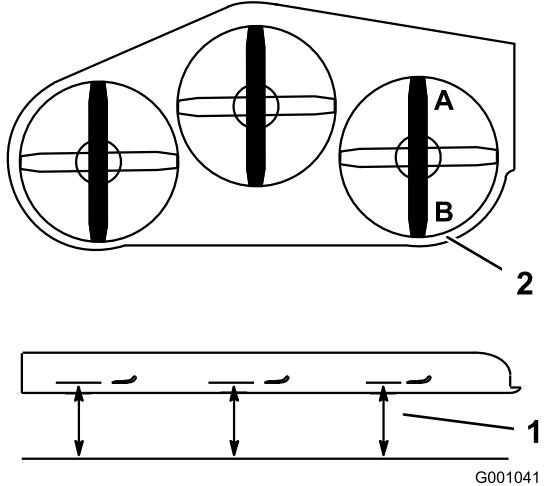

Figure 87
1. Position the **right** blade front-to-rear (Figure 87).
2. Measure the right blade at the **A** location, from a level surface to the cutting edge of the blade tip (Figure 87).
4. Measure the right blade at the **B** location, from a level surface to the cutting edge of the blade tip (Figure 87).
6. The mower blade should be a 1/4 to 3/8 inch (6 to 10 mm) lower at position **A** than at position **B** (Figure 87). If it is not correct, proceed to the following steps.